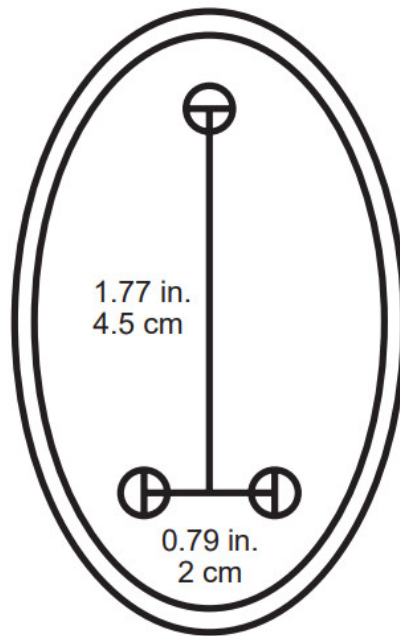

Figure 4
6. If you will use the infrared sensors, prepare locations for them on opposite sides of your gate. They should be directly across from one another at least 6'7" (2 m) apart and no further apart than 65 feet (20 m). It is recommended that they be placed out of direct sunlight if possible. Pilot holes for their support bolts (not incl.) should be placed as shown in Figure 4.